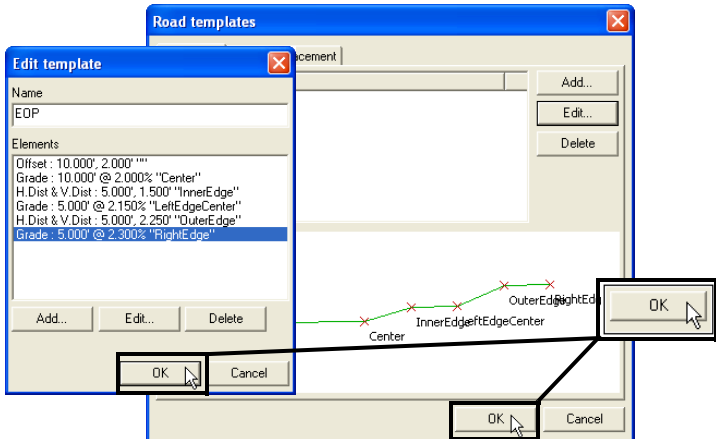

Figure 6-11. Save Template
- Click **OK** to save template. Click **OK** again to save the template to the file (Figure 6-11).